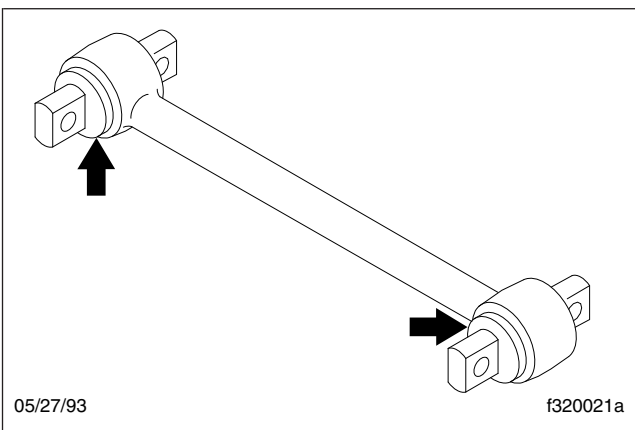

Fig. 1, Torque Arm Bushings
5. Inspect the rubber bushing ends. See **Fig. 1**. Replace the torque arm for any of the following reasons: